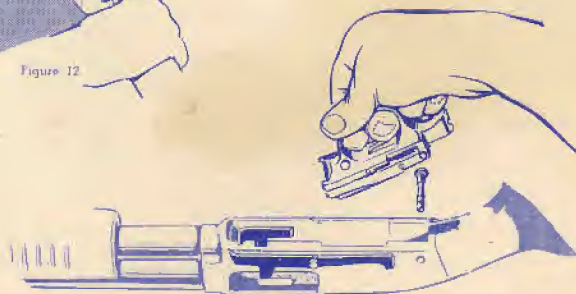

Figure 13
5. **TRIGGER ASSEMBLY:**—With fore-end fully forward and the hammer of the trigger assembly in a cocked position, hold cartridge stop flush with receiver walls, insert front end of trigger guard with guide prongs fitting into guide grooves in receiver walls, push forward and down. See Figure 13.